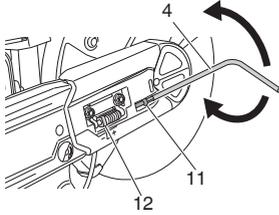
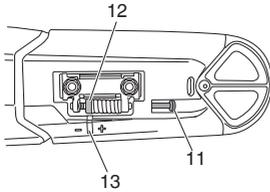

Fig. 12
Fig. 13
- Use the hex. wrench (4) to rotate the tensioner bolt (11) so that the position of the tension nut (12) matches with the marking (13) on the arm cover (10). (Fig. 12, Fig. 13)